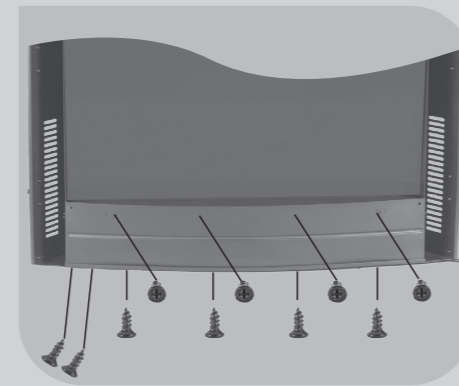

Fig. 5
- At the bottom of heater, there is a lamp cover fixed by eight Philip's head screws, remove the eight screws and lift off the lamp cover (Fig.5).